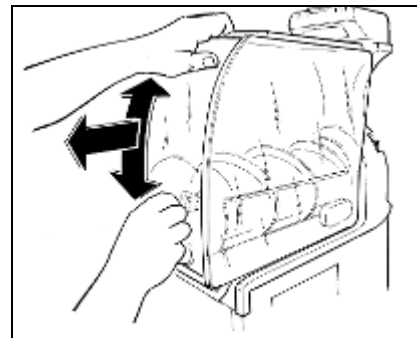

Fig. 2
- Slightly move up and down the bowl as shown in figure 2 while pulling it outwards, this operation will help fully removing it from its seating.